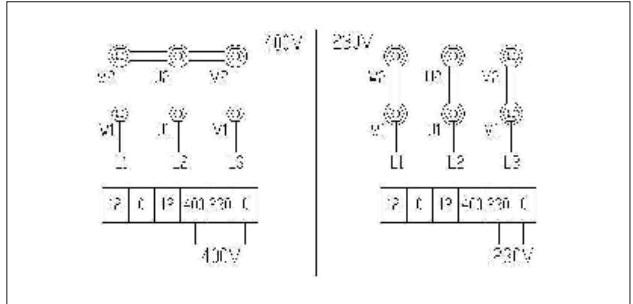

Fig. 7
- In case of 230V three-phase power source, it is required to adjust the wiring of control transformer and the motor (Fig. 7).